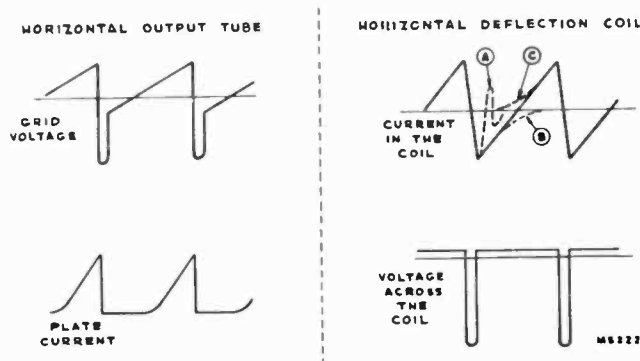

Figure 20—Horizontal Sweep Waveforms
During the latter part of the horizontal trace, the output tube conducts very heavily and builds up a strong magnetic field in the deflection coil and output transformer. When the negative pulse from the horizontal discharge tube is applied to the output tube grid, its plate current is suddenly cut off and the magnetic field in the transformer and deflection coil begins to collapse at a rate determined by the resonant frequency of the system. Actually the system is shock excited into oscillation. Since the output tube is cut off and since the voltage generated by the collapsing field is negative on the reaction scanning tube plate so that it is non-conductive, there is essentially no load on the circuit and it oscillates vigorously for one half cycle. If the reaction scanning tube were not present, the circuit would continue to oscillate as shown in Figure 20 (A). This condition, however, is not permitted. One half cycle of oscillation is permitted because at the end of such a time the current in the deflection coil has reached a maximum in the opposite direction to which it was flowing at the end of the trace period. This reversal of the direction of flow of current is the requirement for retrace and it is accomplished in the allotted 7 microseconds.
As mentioned previously, if the coil were not damped, it would continue to oscillate at its natural frequency as shown in Figure 20 (A). To prevent such an oscillation the reaction scanning tube is brought into action. This tube is in a modified damper circuit which is effectively connected across the deflecting coil.
If no additional energy were fed into the coil, the field would fall to zero and the kinescope beam would come to rest in the center of the tube. In such an r-l circuit, as the current approaches its final value, it does not do so linearly but asymptotically as indicated in Figure 20 (B). It is therefore
necessary to have the output tube begin to supply power to the deflection coil before the energy in the coil is completely dissipated. Figure 20 (C) shows the shape of the current supplied by the output tube. Although the currents supplied by the output tube and by the decaying field are curved at the cross over point, together they produce a coil current that is linear.